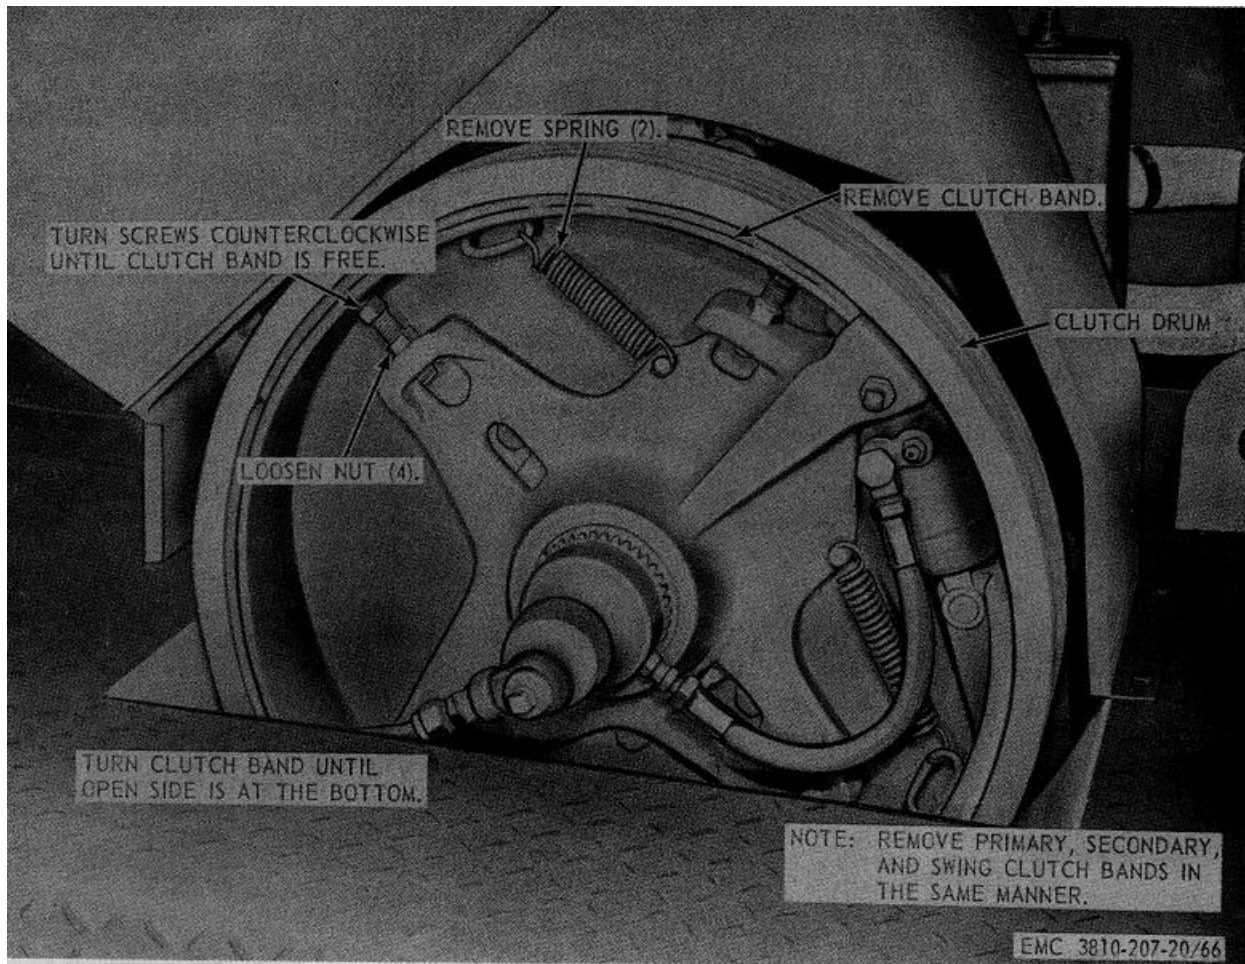

Figure 66. Boom hoist clutch band, removal and installation.
- (1) Remove the boom hoist hydraulic cylinder (par. 131).
- (2) Remove the boom hoist clutch band as instructed on figure 66.
- (1) Install the boom hoist clutch band as illustrated on figure 66.
- (2) Install the boom hoist hydraulic cylinder (par. 131).
- (3) Adjust the boom clutch band (TM 5-3810-207-10).